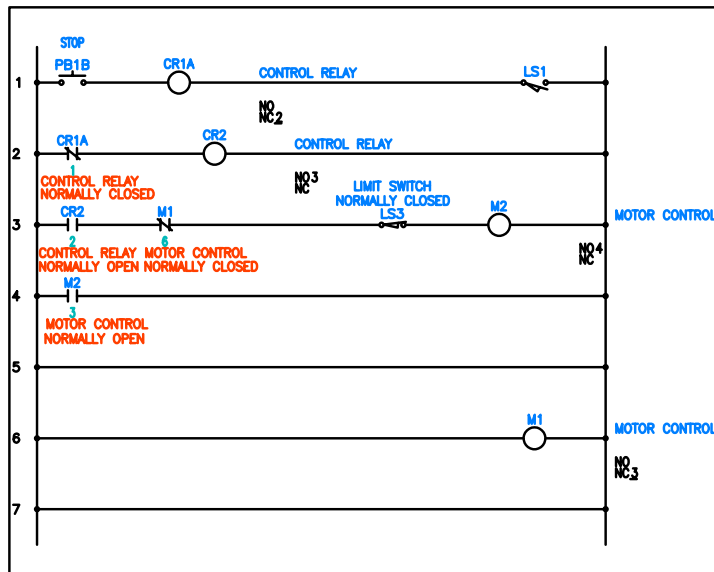

Figure 6-47 Components inserted in the ladder
24. Similarly, insert **Limit Switch, NO** in the rung 1. To do so, choose the **Limit Switch, NO** from the **JIC: Limit Switches** icon of the **Insert Component** dialog box; you are prompted to specify the insertion point. Enter **18,18** at the Command prompt and press ENTER; the **Insert / Edit Component** dialog box is displayed. By default, **LS1** is displayed in the edit box of the **Component Tag** area in this dialog box. Next, choose the **OK** button; **LS1** is inserted into rung 1 of drawing. Figure 6-47 shows the ladder with components inserted in it.
25. Choose the **Move/Show Attribute** tool from **Schematic > Edit Components > Modify Attributes** drop-down; you are prompted to select the object. Select the **Motor Control** attribute of the **Motor Starter Coil** and press ENTER; you are prompted to specify the base point. Specify the base point at the left corner of the attribute and move the attribute, as shown in Figure 6-47.